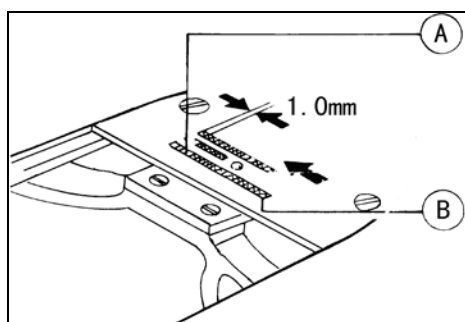

Fig. 24
18. ADJUST THE POSITION OF FEED DOG (Fig.24,25)
The standard position of feed dog is that the clearance between the front end of the throat plate slot and the first tooth of the fully advanced feed dog is 1 mm, as shown in Fig.24 .